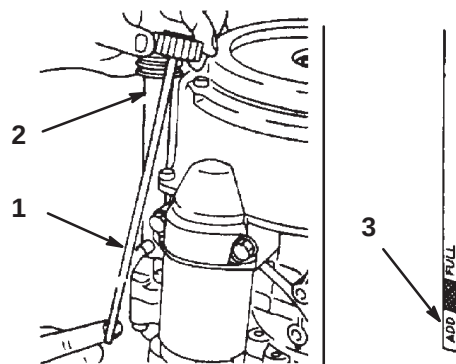

Figure 34
2. Clean around the oil dipstick (Fig. 34) so dirt cannot fall into the filler hole and damage the engine.
3. Unscrew the oil dipstick and wipe the end clean (Fig. 34).
4. Slide the oil dipstick fully into the filler tube, do not thread onto tube (Fig. 34). Pull the dipstick out and look at the end. If oil level is low, slowly pour only enough oil into the filler tube to raise the level to the full mark.
6. Slowly pour approximately 80% of the specified oil, on page 30, into the filler cap (Fig. 34). Now check the oil level; refer to Checking Oil Level, page 30. Slowly add additional oil to bring it to the full mark.